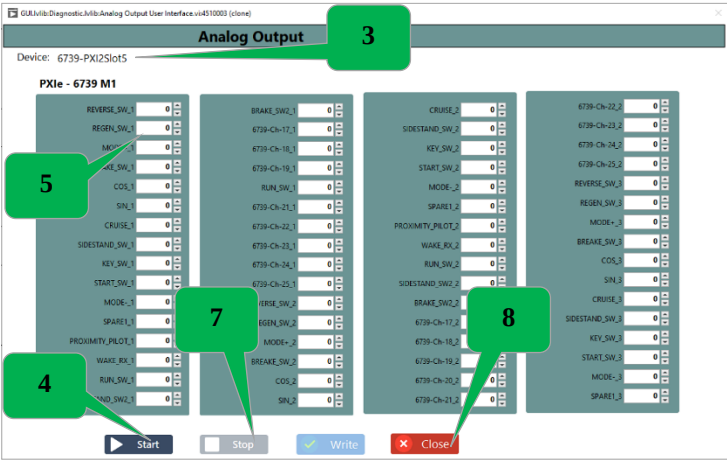

Figure 52: Analog Output
- 2) Click the Analog Output Diagnostic Button and Refer Fig 52.